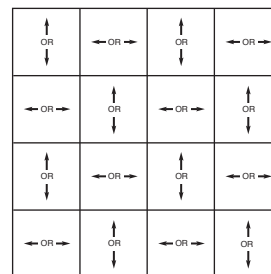
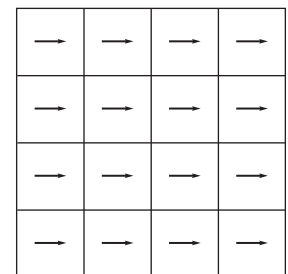
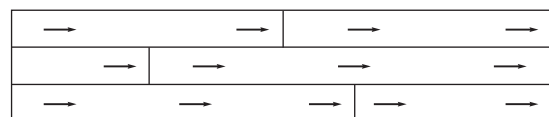

Fig. 1 - Turn tiles as shown.
Fig. 2 - Arrows in the same direction.
Fig. 3 - Install planks with arrows running in the same direction.
- For best visual results: For *DuraCeramic* the directional arrows printed on the back of the tile should be installed following the illustration in (Fig. 1), with tiles turned randomly, i.e. north, south, east and west. For *Ovations*, install with directional arrows pointing in the same direction as shown in (Fig. 2). For *DuraPlank II*, install all planks with arrows pointing in the same direction following the illustration in (Fig. 3).